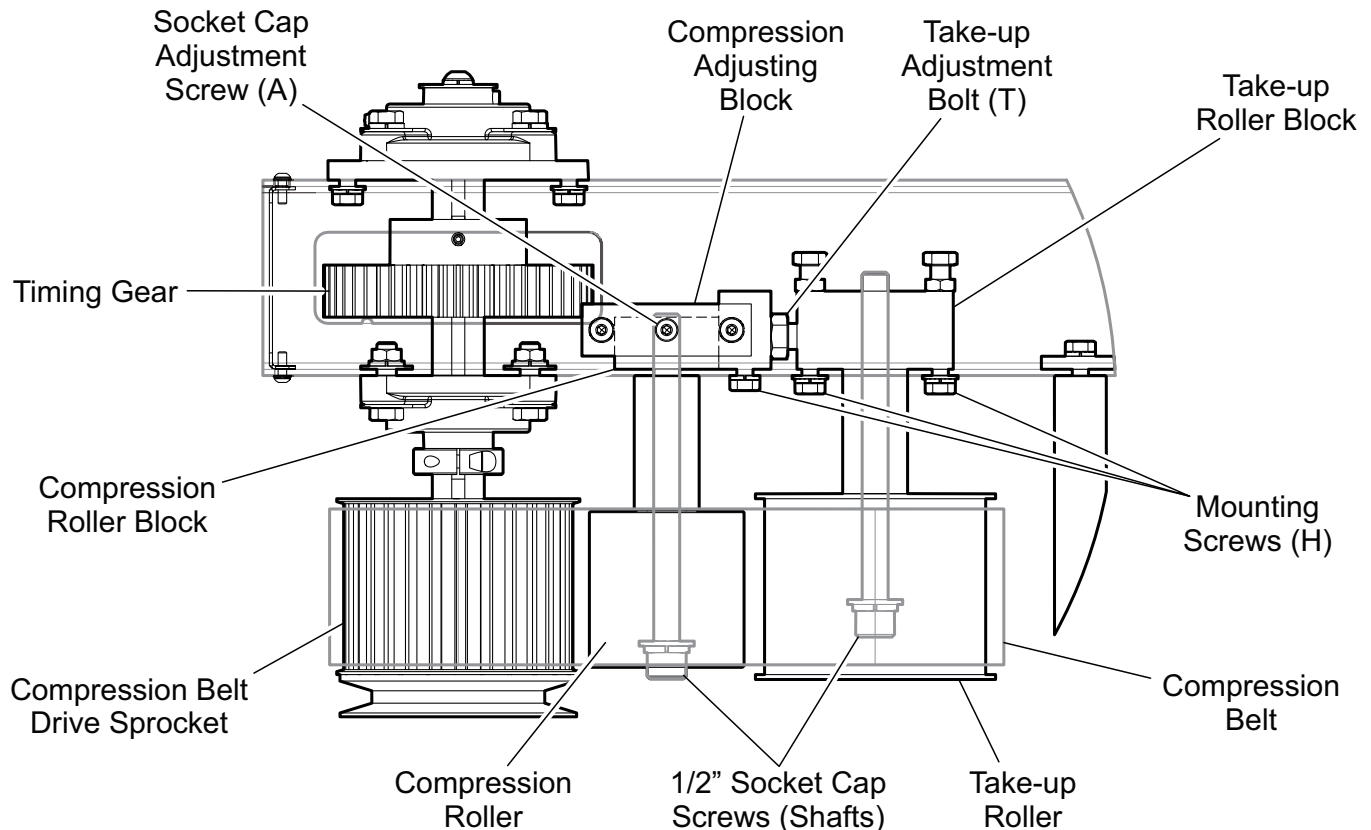
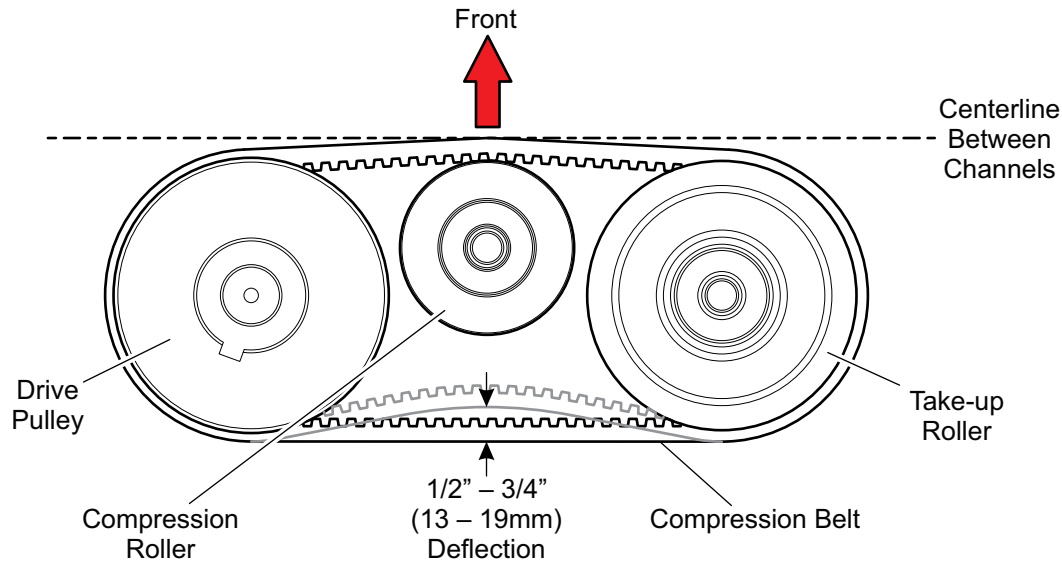

Figure 5-21: Front Compression Roller
Figure 5-22: Rear Compression Belt Position
4. Loosen the ½ inch screw of the swing channel compression roller from the bottom of the machine enough to allow the block to be moved. Turn the socket cap adjustment screw (A) clockwise, to begin releasing the tension in the swing channel compression belt (see Figure 5-21:).
- Loosen the $\frac{1}{2}$ inch screw of the fixed channel compression roller from the bottom of the machine enough to allow the block to be moved. The rear (fixed channel) compression roller is moved by unlocking the jam nut and turning the (rear compression block) adjustment screw (C) into the block. This action will begin to release the tension in the rear compression belt (see Figure 5-7: Compression Tension Adjustment Screw & Jam Nut and Figure 5-22: Rear Compression Belt Position).
- There are four (4) holding screws (H) that hold each of the take-up blocks to the channels. They pass through slots and are on the underside of the channels just above the take-up rollers (see Figure 5-22: Rear Compression Belt Position and Figure 5-21: Front Compression Roller). Loosen the screws (H) just enough to allow the block to move. Loosening these screws too much will permit the shaft to tilt (skew) too much, making it difficult to align the new belt.
- Inside each channel the take-up roller blocks are positioned using a hex-head bolt (T) (see Figure 5-22: Rear Compression Belt Position and Figure 5-21: Front Compression Roller). Turn this take-up bolt (T) so that it rotates into the block, allowing the block to move towards the drive sprocket and compression roller. Keep doing this until the old compression belt can be removed.
- Turn the take-up bolt (T) so that it rotates out of the block. This should begin to tighten the compression belt. The holding screws (H) should be loose enough to allow the block to move without permitting the shaft to tilt too much.
- Tighten the holding screws (H). Push in on the side of the belt between the drive sprocket and the take-up roller. The belt should deflect about $\frac{3}{4}$ inches (19mm) (see Figure 5-22: Rear Compression Belt Position).
- Make sure that the holding screws (H) are tight before engaging the compression roller.